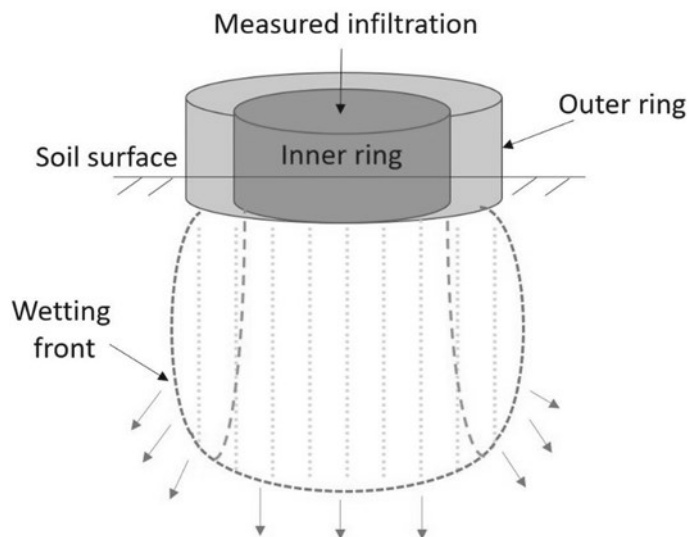

Figure 3. Infiltration test with a double ring infiltrometer (adapted from Youngs 1991)
1. A total of three double-ring infiltrometers (These can be handmade by buying two different diameter PVCs and cutting them into three pieces. It is recommended to install a total number of three double-ring infiltrometers (Fig. 3) to get repeatable numbers.)